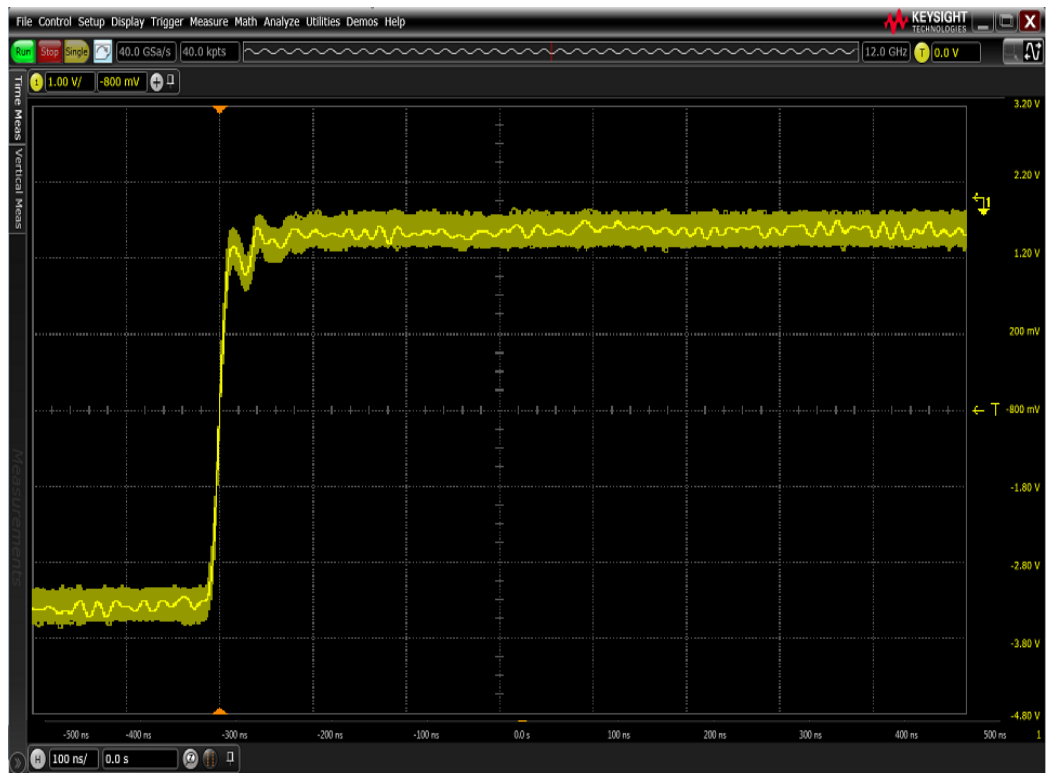

Figure 77 Example of a waveform when the probe connection is good
- 11 Set the horizontal position to approximately 3ns. A waveform similar to the one displayed in Figure 77 must appear.